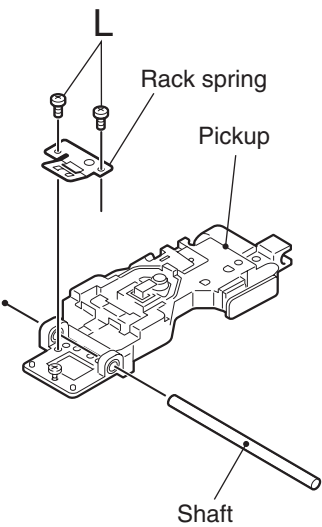

Fig.18
■ Removing the pickup (See Fig.18)